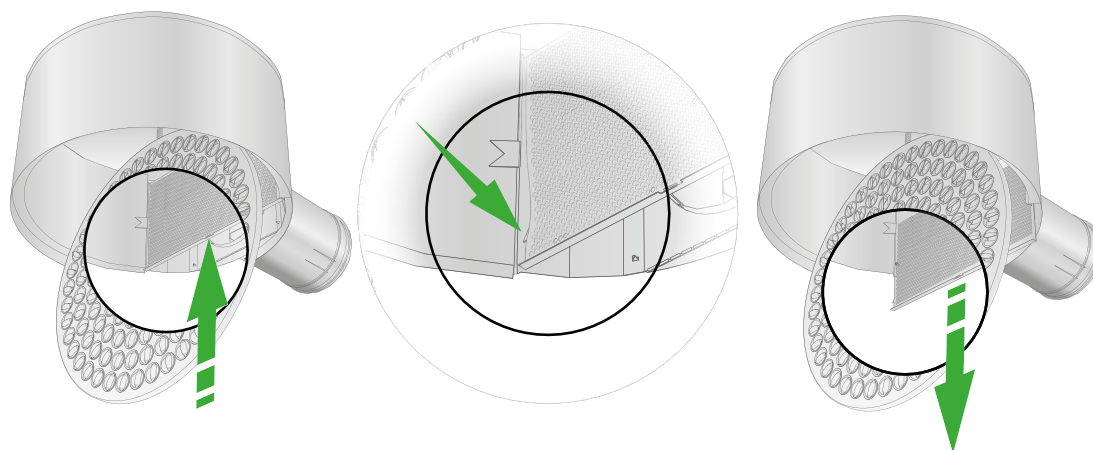

Figure 3. Dismantling of perforated air distribution plate.
- Dismantle the perforated air distribution plate located on the inlet as shown in figure 3.
The throw $l_{0.2}$ is specified in the sizing graphs for standard nozzle settings, clockwise swirling air discharge. If a different setting is desirable, Table 2 can be used. See also figure 3, Nozzle settings, under Dimensions and Weights.